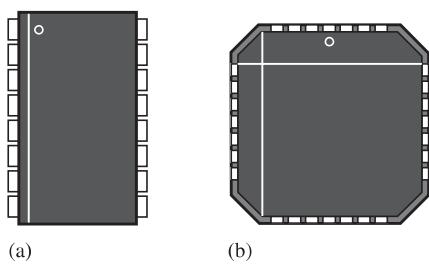

FIGURE 1–64
28. Label the pin numbers on the packages in Figure 1–64. Top views are shown.